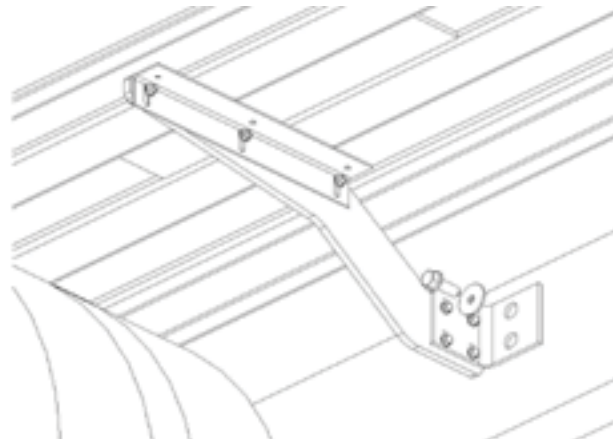

Figure 8
- A. Mount the center brackets between each set of tandems. Using the center bracket as a guide, drill three 5/16" holes in fender. Use the 5/16" x 1-1/4" supplied bolts to attach fender to bracket. Figure 8 shows a typical center bracket installation. Try and use existing holes to mount center bracket to truck frame.